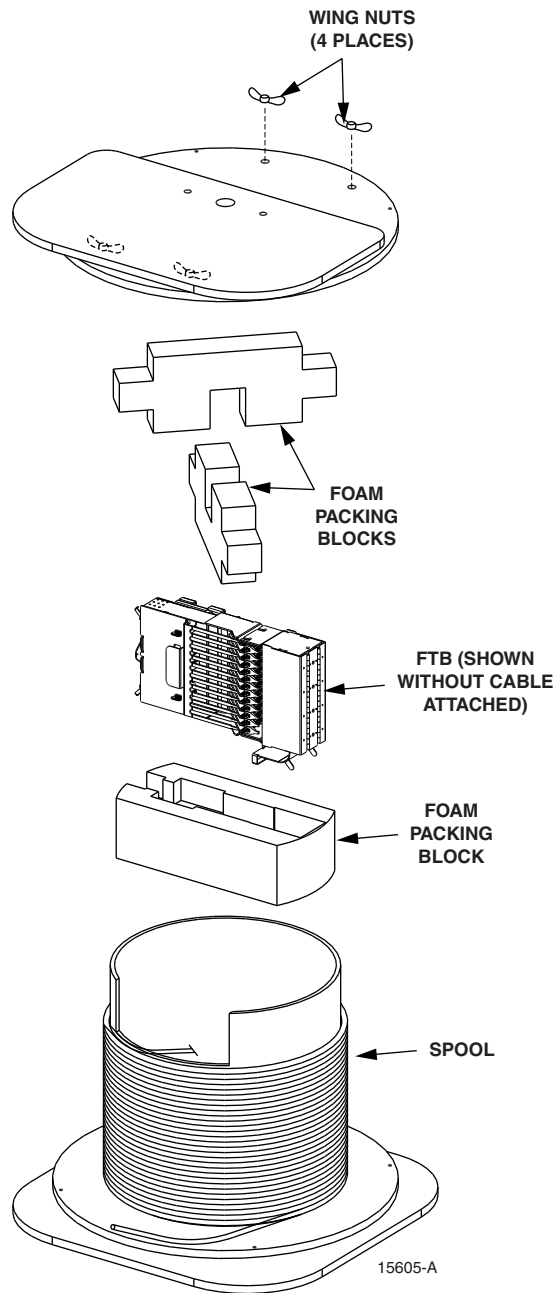

Figure 18. Pre-Terminated FTB Spool Assembly
4. When all of the cable is unwound from the spool, place the cable spool on its side with the smaller of the two plywood side supports facing up as shown in Figure 18.